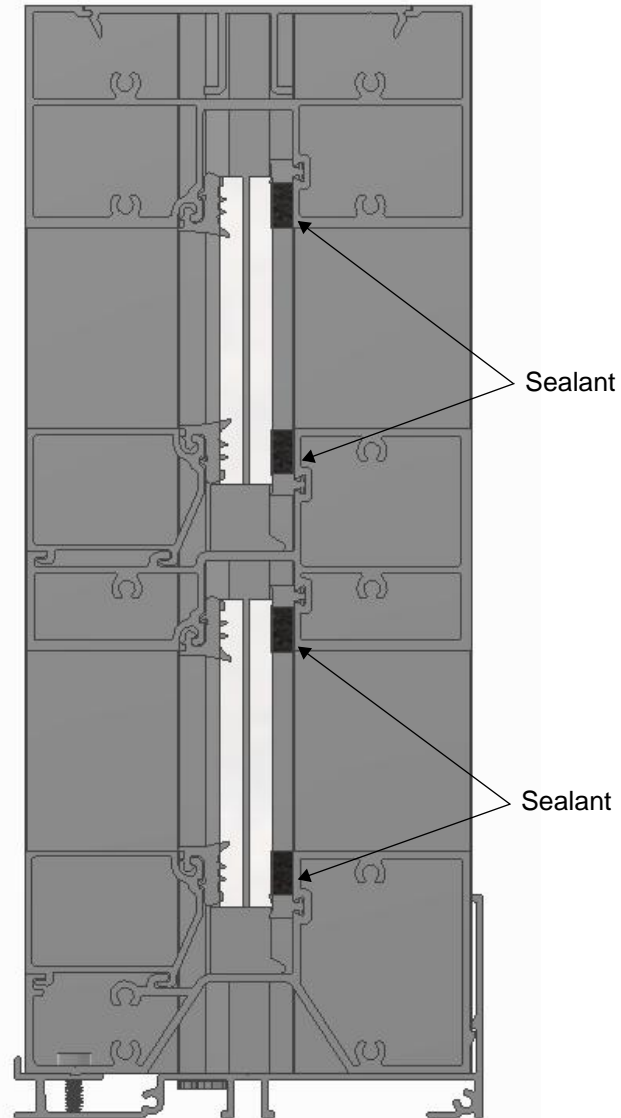

Figure 16: Apply sealant between wet glazed gasket, mullion and glass.
- Apply Dow Corning 995 structural sealant between wet glazed gasket, mullion and glass as shown in Figure 16.